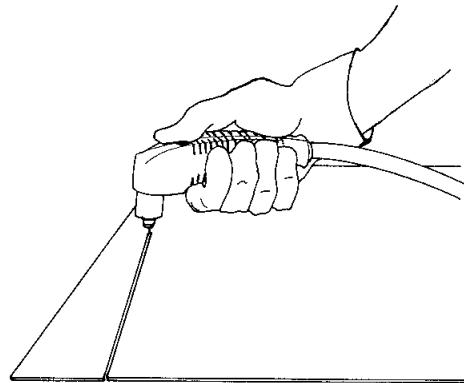

Figure 4-6 Dragging the Torch
- Hold the torch nozzle at a vertical position and watch the arc as it cuts along the line (Fig. 4-6). By lightly dragging the nozzle on the workpiece, you can maintain a steady cut. For straight-line cuts, use any straight edge as a guide.